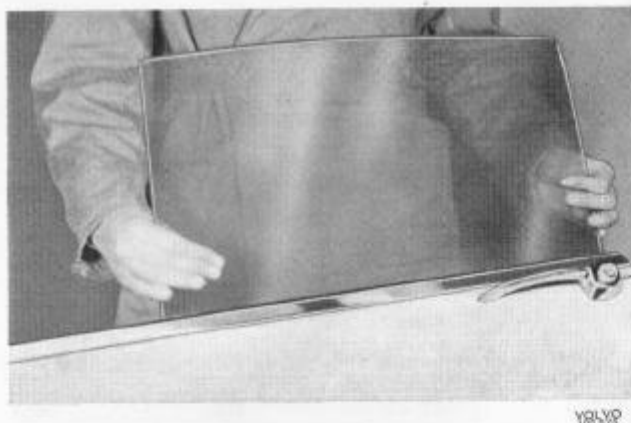

Fig. 8-25. Taking out winding window
3. Move the window backwards and turn it inwards so that it goes out of the slot in the winding mechanism (Fig. 8-25).